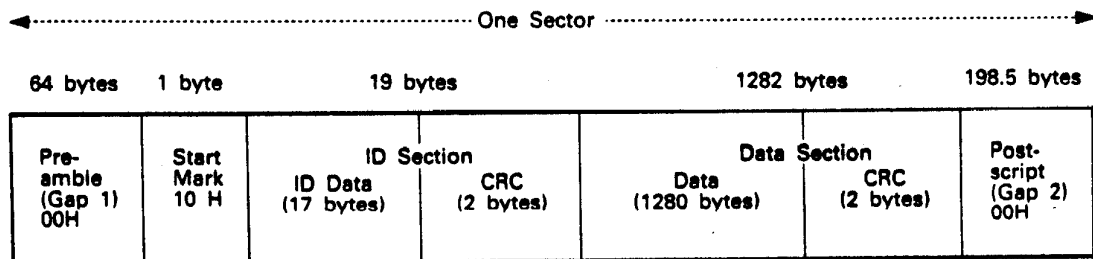

**Figure 1-2.**
As the track spins beneath the drive head, the computer uses an index signal to recognize the appropriate sector when that sector comes along. For example, if the computer is looking for Sector 0 on the track illustrated in Figure 1-2, the index signal looks for a 7.6 ms timing gap on the spinning diskette. When the drive head reads that gap, the computer knows it has found Sector 1.
**Note:** The segments in Figure 1-2 and in other illustrations in this manual are not drawn to scale. To get a clear understanding, always note the true measurements provided.